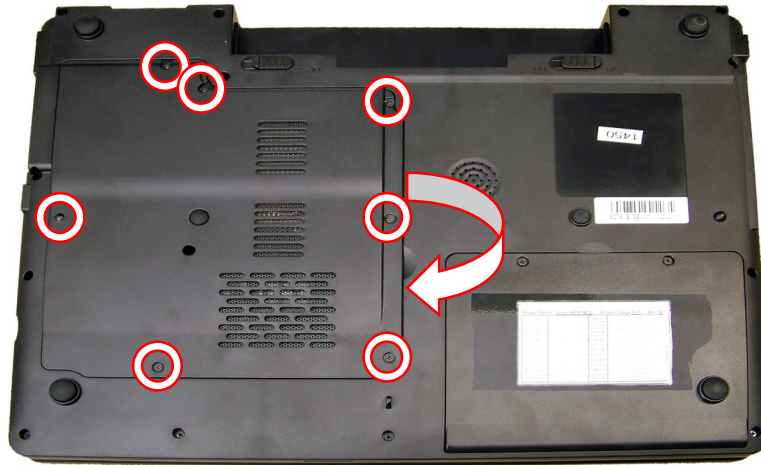

Fig. 5 Removing memory/CPU/WLAN cover.
1. Remove the 7 screws retaining the memory/CPU/WLAN cover (see Fig. 5).